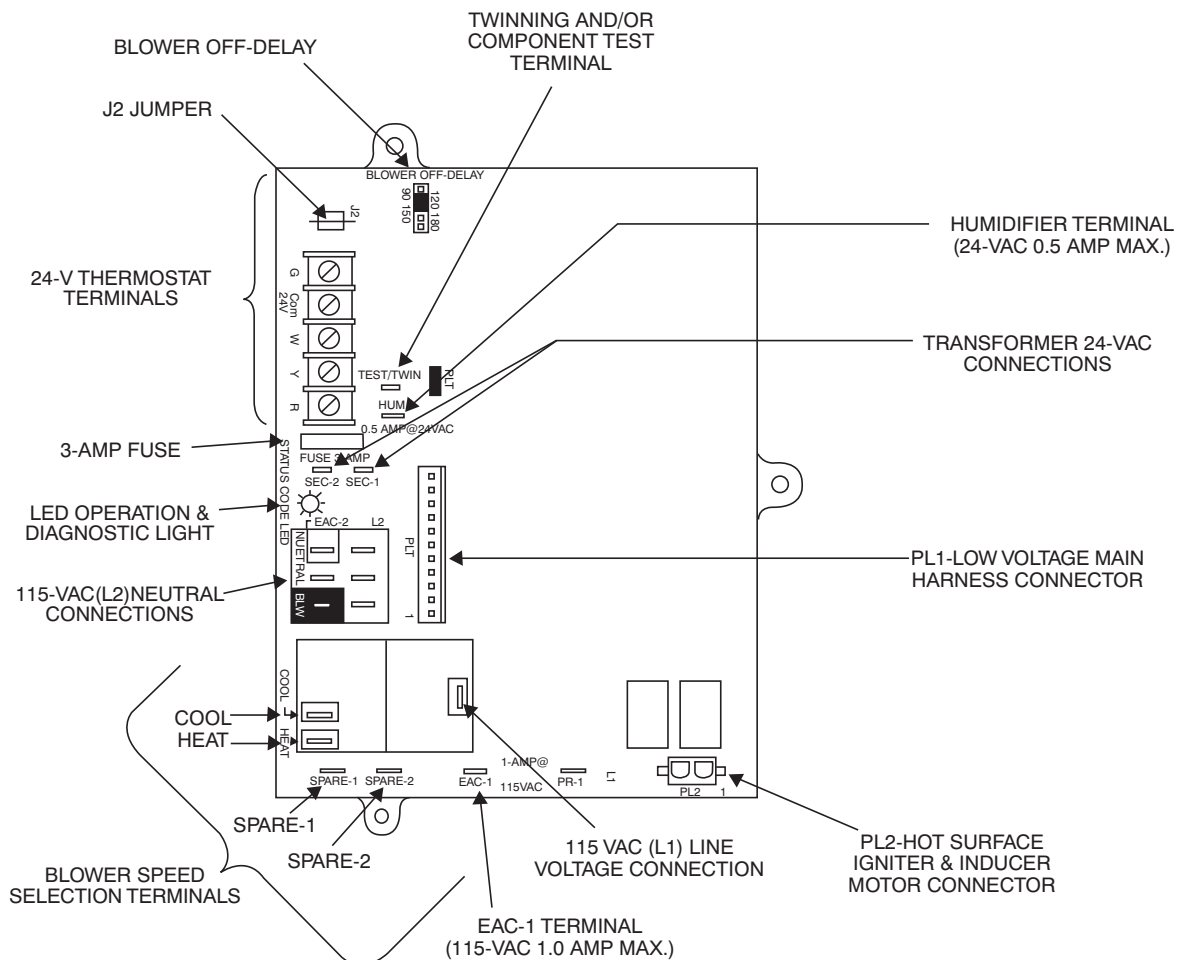

Fig. 16 - Control Center
The 24-v circuit contains an automotive-type, 3-amp fuse located on the furnace control. (See Fig. 16.) Any direct shorts of the 24-v wiring during installation, service, or maintenance will cause this fuse to blow. If fuse replacement is required, use **ONLY** a fuse of identical size. The furnace control LED will flash status code 24 when fuse needs to be replaced.
4. For approximately 2 sec, short (jumper) the COM-24v terminal on control to the TEST/TWIN 3/16-in. quick-connect terminal on control until LED turns off. Remove jumper from terminals. (See Fig. 16.)